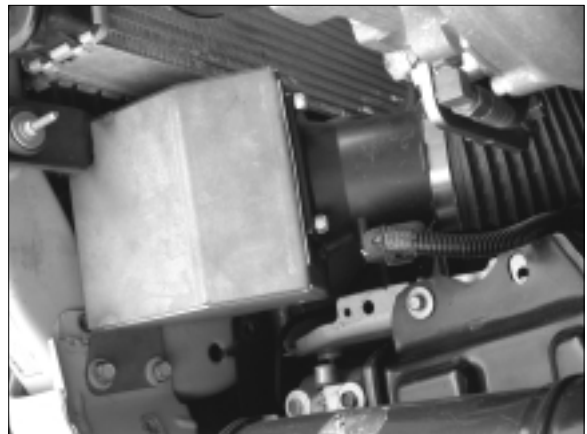

Fig. 11-a
- B. Install the MAF assembly onto the driver's side of the core support using the factory hardware. (See Fig. 11-a.)